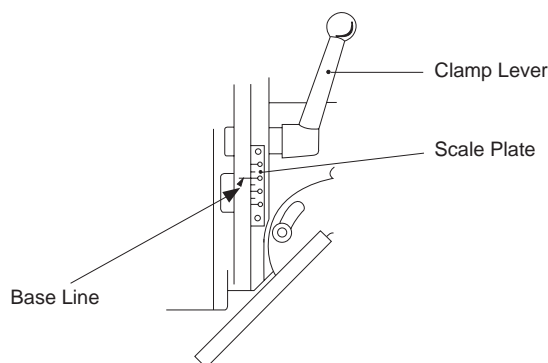

Fig. 1
- (1) Loosen the Clamp Lever. (Fig.1) Move the Clamp Lever to a convenient position when a spline is used. Move it to a place where it will not obstruct work after use.
- (2) Move the Base Line to the desired location on the Scale Plate by operating the grip so that the specified chamfering levels are obtained.
- (3) Perform firm locking by the Clamp Lever on completion of adjustment, and turn the Clamp Lever to a position where the operation is not obstructed.